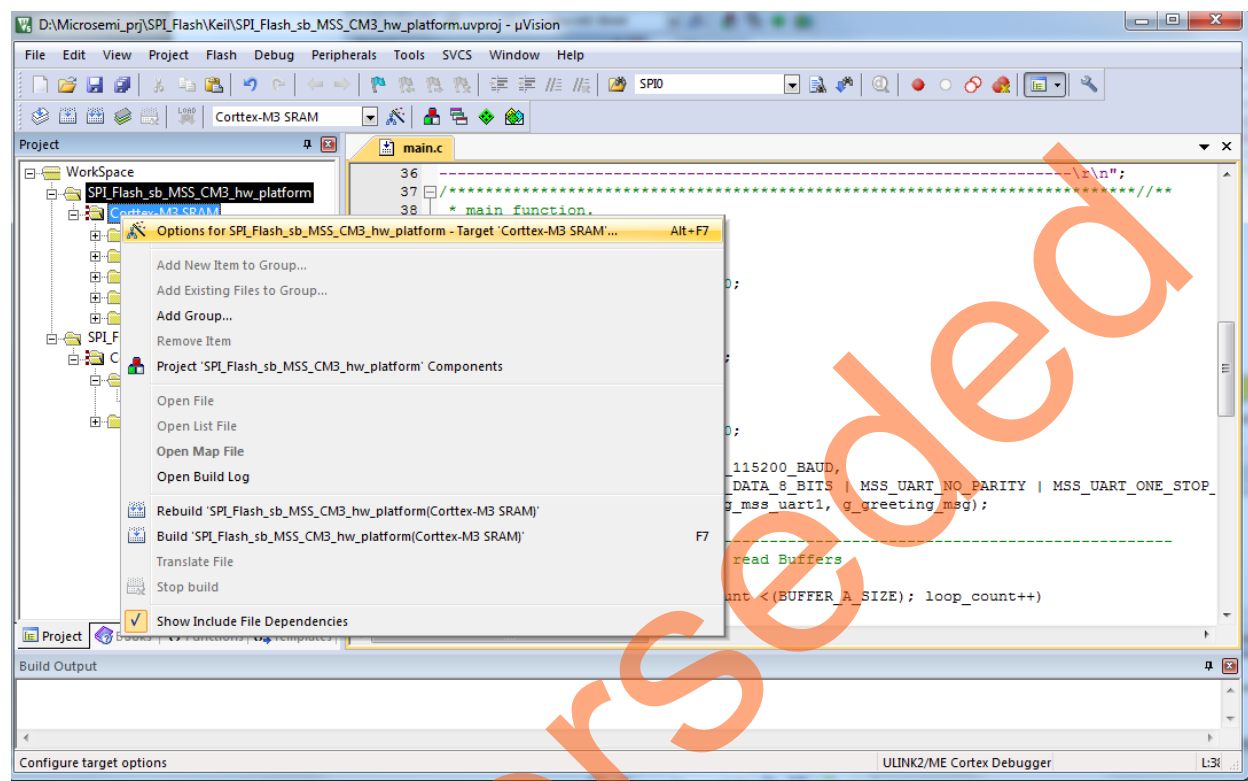

**Figure 23 • Cortex-M3\_SRAM Settings**
8. Change **SPI\_Flash\_sb\_MSS\_CM3\_hw\_platform** debug mode to **Cortex-M3\_SRAM** by selecting **Cortex-M3\_SRAM** from the drop-down list, as shown in Figure 23.